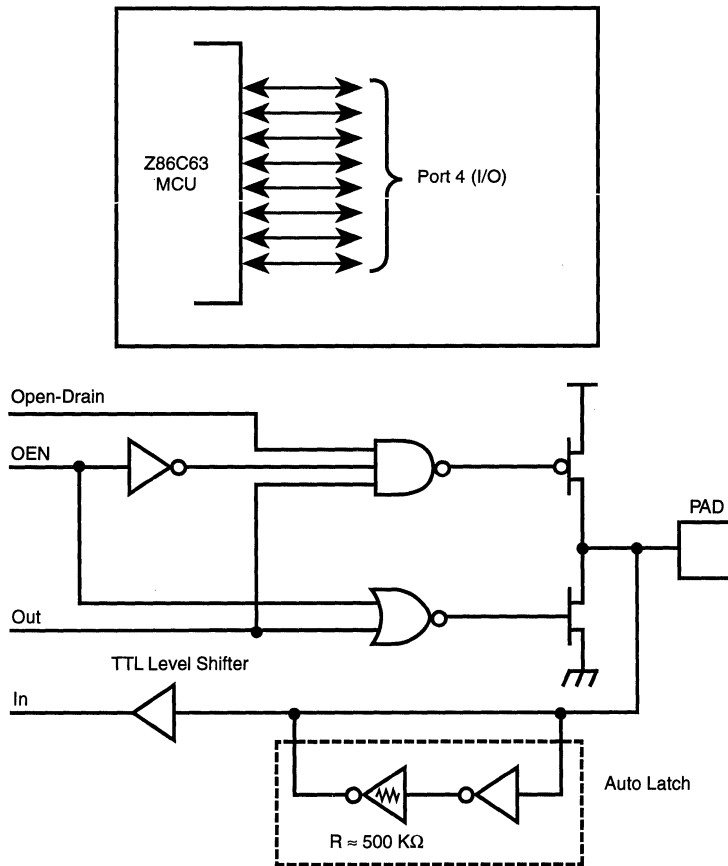

Figure 12. Port 4 Configuration
Port 4 (P47-P40). Port 4 is an 8-bit, bit programmable, bidirectional, CMOS compatible port. Each of these eight I/O lines can be independently programmed as an input or output or globally as an open-drain output. Port 4 is always available for I/O operation (Figure 12). Port address (F)02.